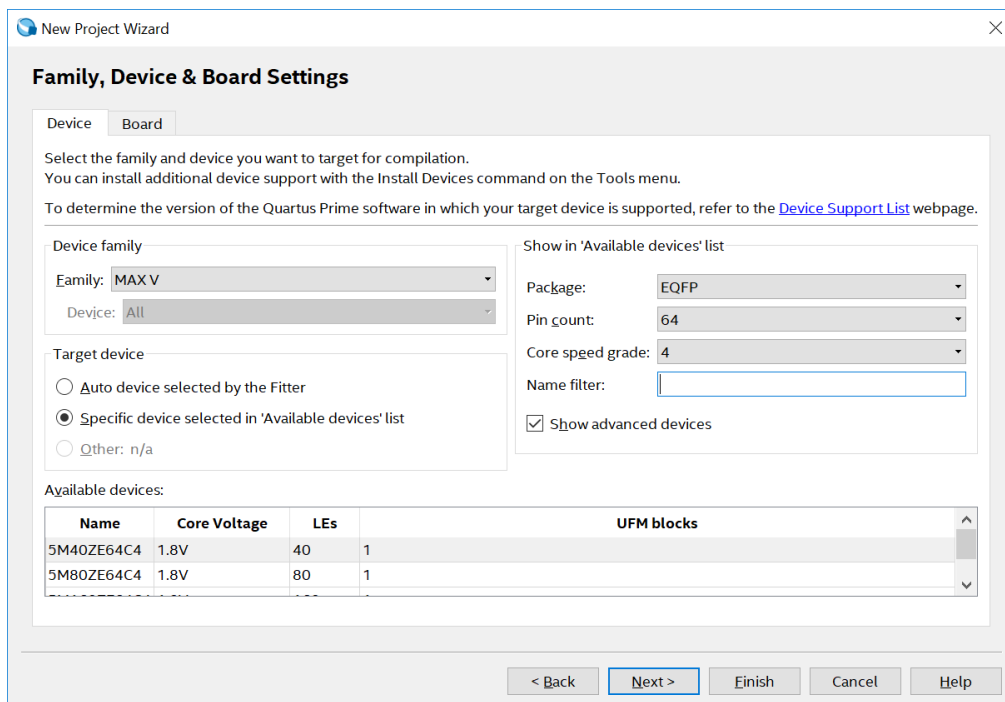

Figure 2: Assigning a programmable device
- Figure 2 shows an example device selection window.